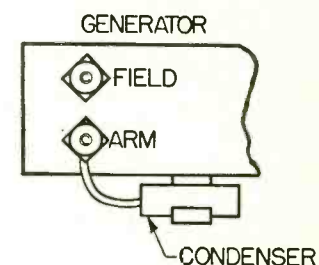
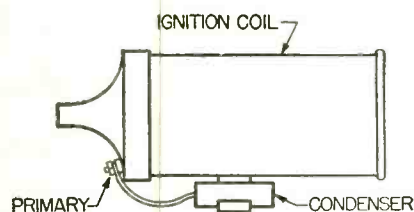
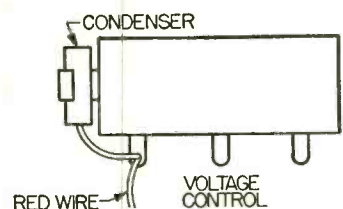

Fig. 3—Generator condenser.
Fig. 4—Ignition coil condenser.
Fig. 5—Voltage control condenser.
All 1956 Oldsmobiles have special resistor type spark plug and coil wires and no other suppression is necessary at the distributor. Condensers are mounted at the following points: (1) "A" terminal (brown wire) of the generator (see Fig. 3), (2) the primary terminal of the ignition coil (Fig. 4) (3) the positive (red wire) terminal of the generator-voltage control. (Fig. 5).